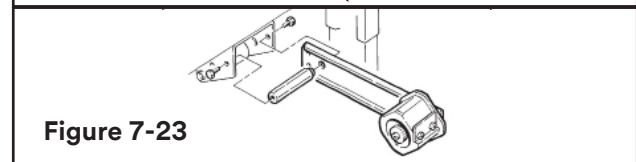

Figure 7-23
4. Install and secure tape drum bracket assembly on the entry end of lower frame (as shown in Figure 7-23).